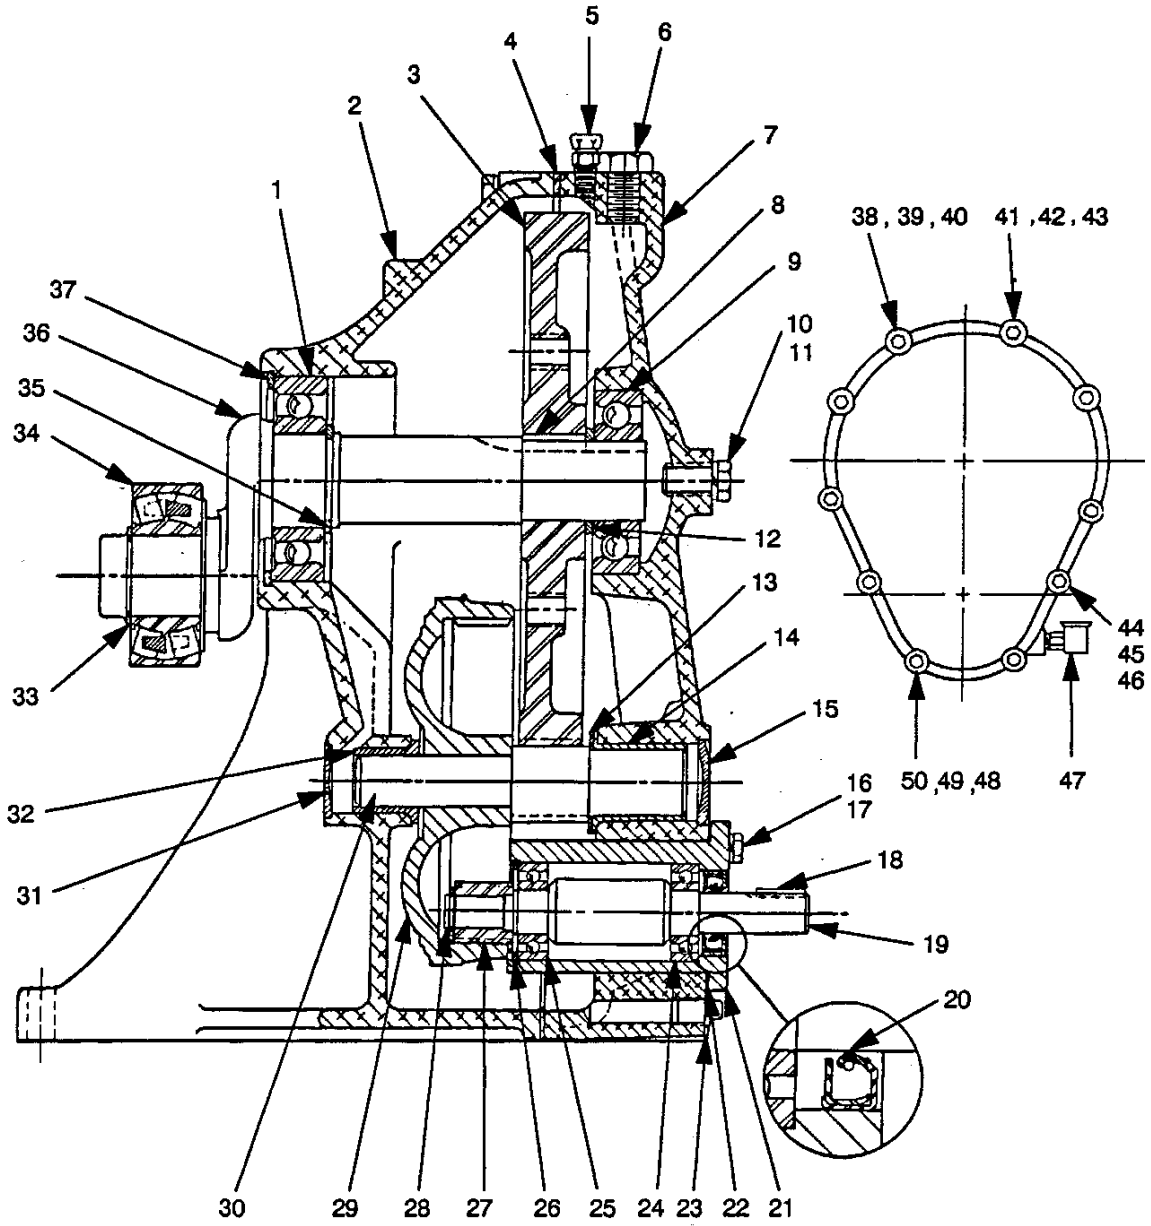

Figure 4. 44161-010 Gearbox Assembly
With the diaphragm pot assembly and diaphragm removed, loosen the hardware (2, 3 and 4) and remove the end cap (39, Figure 1). Slide the bearing cap (1) off the crankshaft roller bearing (34, Figure 4), and remove the plunger rod assembly.
Disengage the hardware (19, 20, 21 and 22) and remove the coupling guard (2). Loosen the hardware securing the coupling (3). Separate the gearbox assembly from the coupling by pulling straight away. Remove the shaft key (18, Figure 4).
(Figure 4)